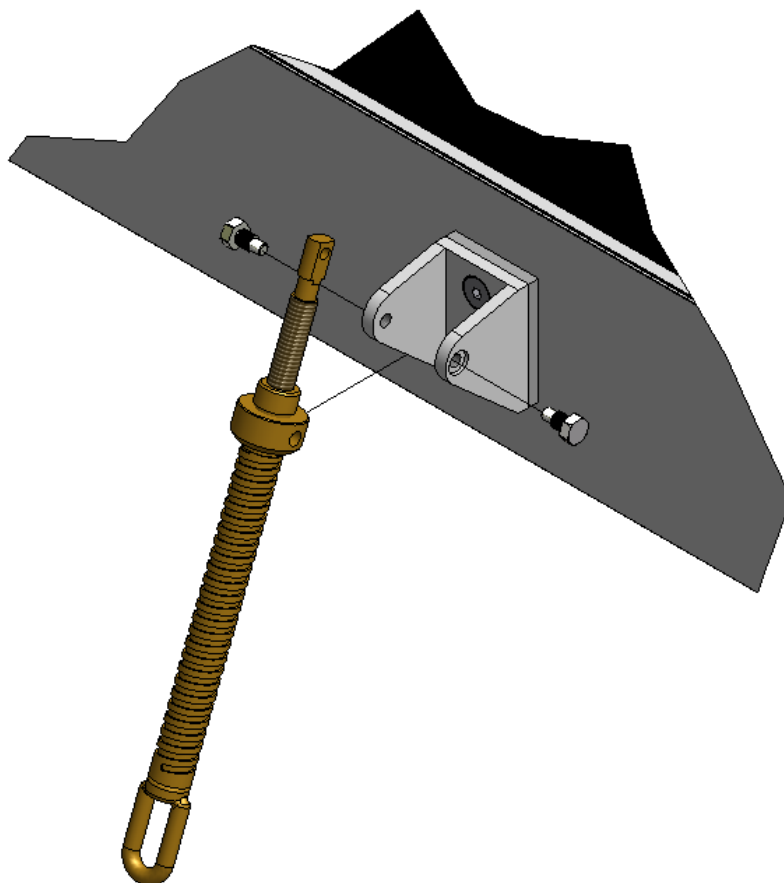

Fig. 14d – Spindle connected to base bracket
- Attach the spindle to the base bracket using the supplied fixings – ensure that it is correctly orientated (fig. 14d)